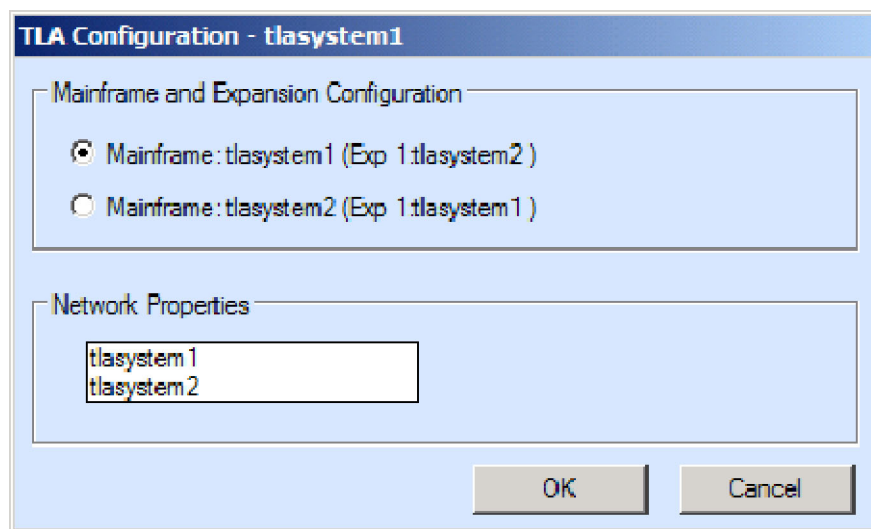

Figure 23: Two instrument configuration
5. Click the **TLA Configuration** icon. The TLA Configuration dialog box opens. (See Figure 23.) Use this dialog box to assign one instrument as the master mainframe and the other as the expansion mainframe.